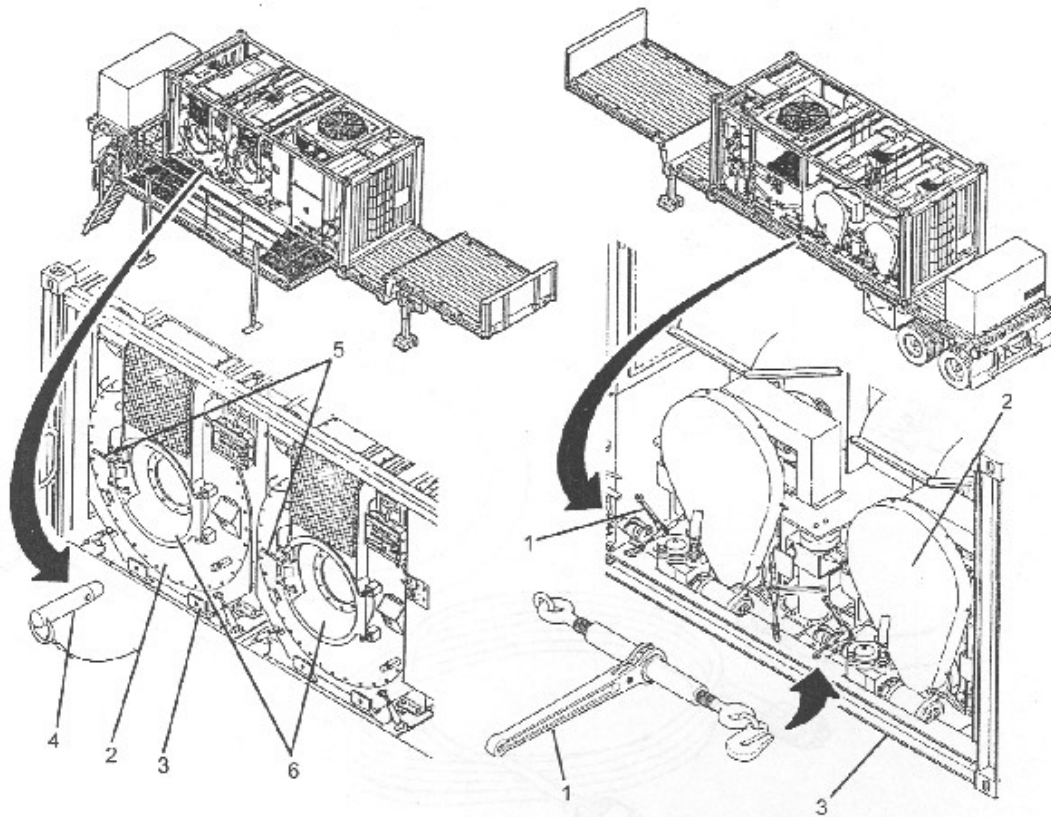

Figure 3-43
- d. Remove items stowed in washing drying drums (2) as follows
3. 50 ft water supply hoses, qty 2 f. Anti-foam hand pump (See Figure 3-43)